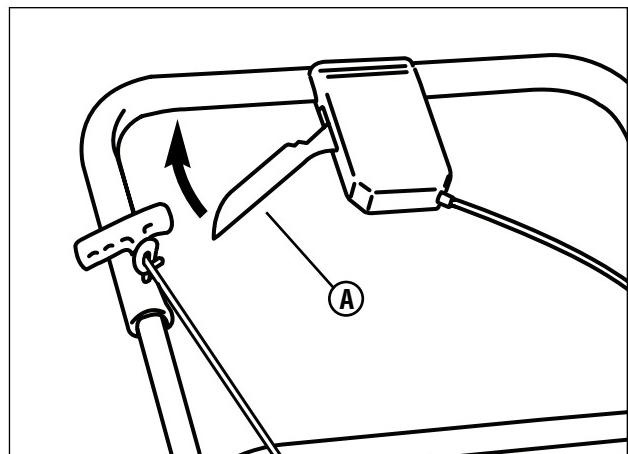

Figure 14: Operating the front wheel drive system
2. **Models SP22675 & NSP22675:** Pull the drive lever (**A**, **Figure 14**) completely back. The drive system is now engaged.